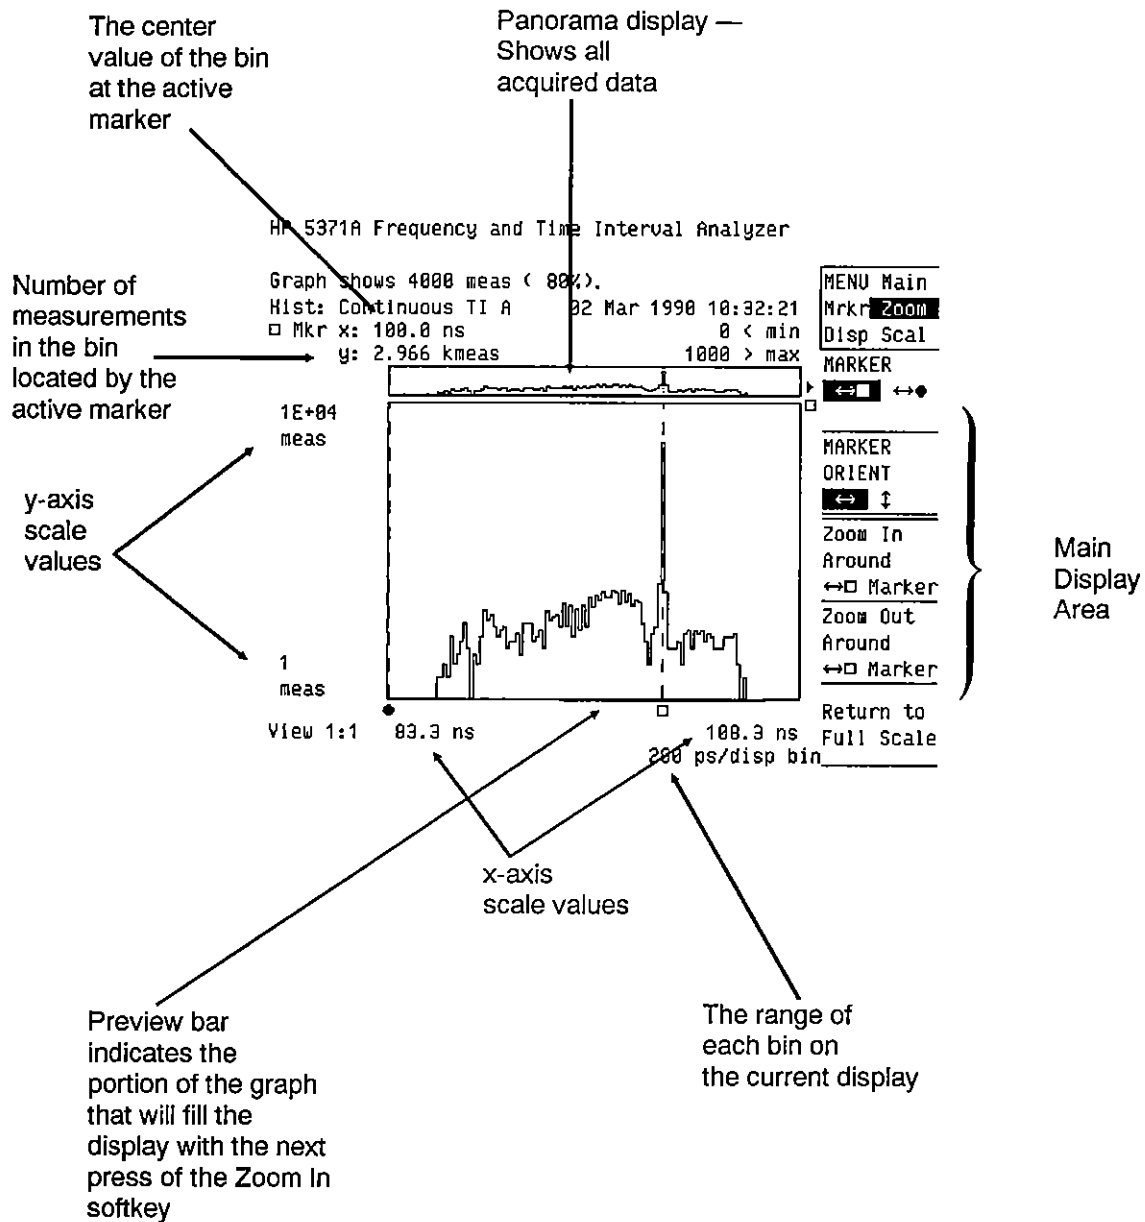

Figure 16-7. Histogram Graph Organization
*Figure 16-7* shows a Histogram graph with information highlighting the organization of the graph.